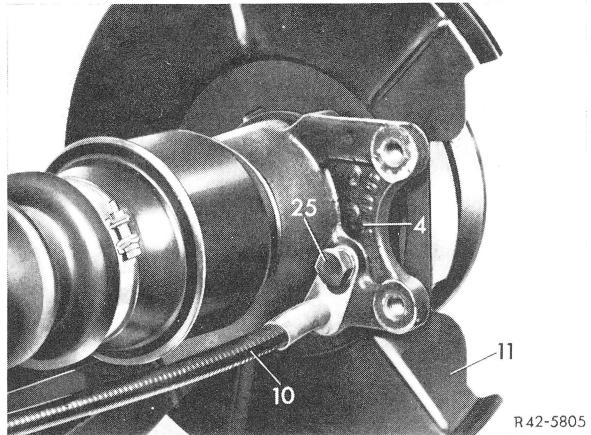

Fig. 1
- 2 On vehicles with diagonal swing axle, unscrew hex. bolt (25) from wheel carrier (4) and remove brake cable control (10) (Fig. 1).